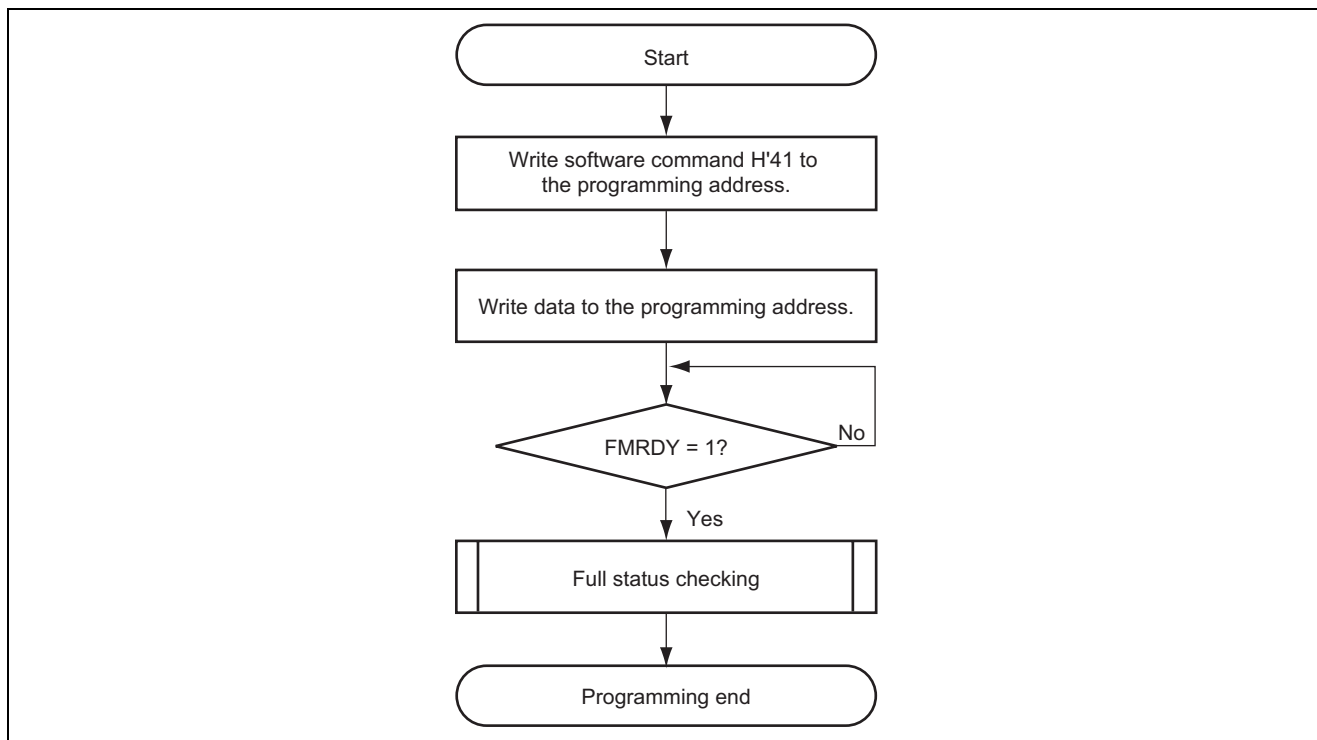

Figure 8 Programming Flowchart
When programming has been completed, the results of programming can be checked by reading the FMPRSF bit in FLMSTR (see the description under (9), Full Status Checking below). Figure 8 shows the programming flowchart. Do not attempt further programming at addresses that have already been programmed.